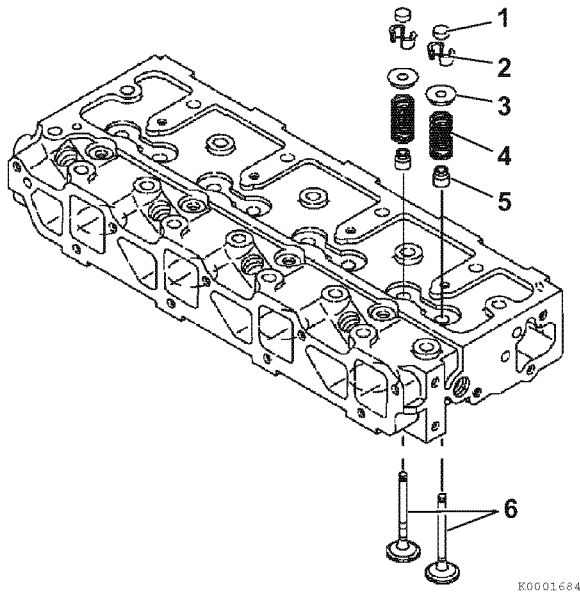

Figure 6-32
4. Place all the valves (6, **Figure 6-32**) in their proper location in the cylinder head.
5. Place the cylinder head on the workbench with the combustion side down to install the valve springs. Install the valve spring (4, **Figure 6-32**) and the spring retainer (5, **Figure 6-32**).
7. Insert the valve keepers (2, **Figure 6-32**) and slowly release the tension on the valve spring. Install the valve cap (1, **Figure 6-32**). Repeat the steps on all the remaining valves.